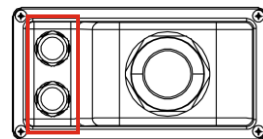

Figure 5.24
2. Screw off the covers of "COM2" and "COM3" on the inverter as shown in figure 5.24.